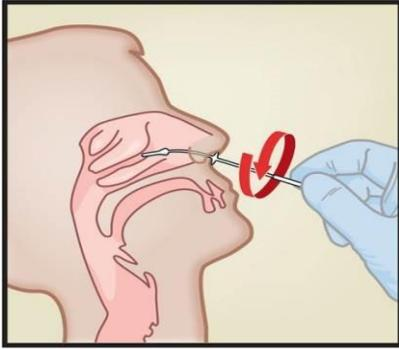

Figure 2: Mid-Turbinate Specimen Collection
1. Insert the mid-turbinate swab into either nostril, passing it into the mid-turbinate area (see Figure 2). Rotate swab by firmly brushing against the mid-turbinate area several times.